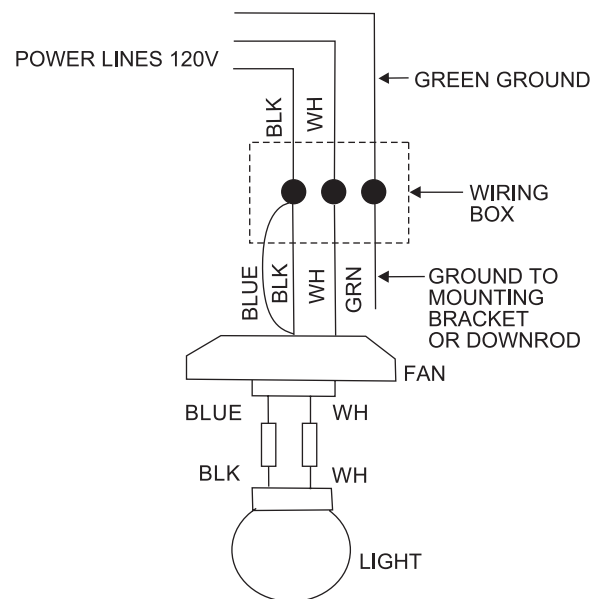

Figure 11
Step 1 Connect the fan supply (black) wire and light supply (blue) wire to the black household supply wire as shown in Figure 11.